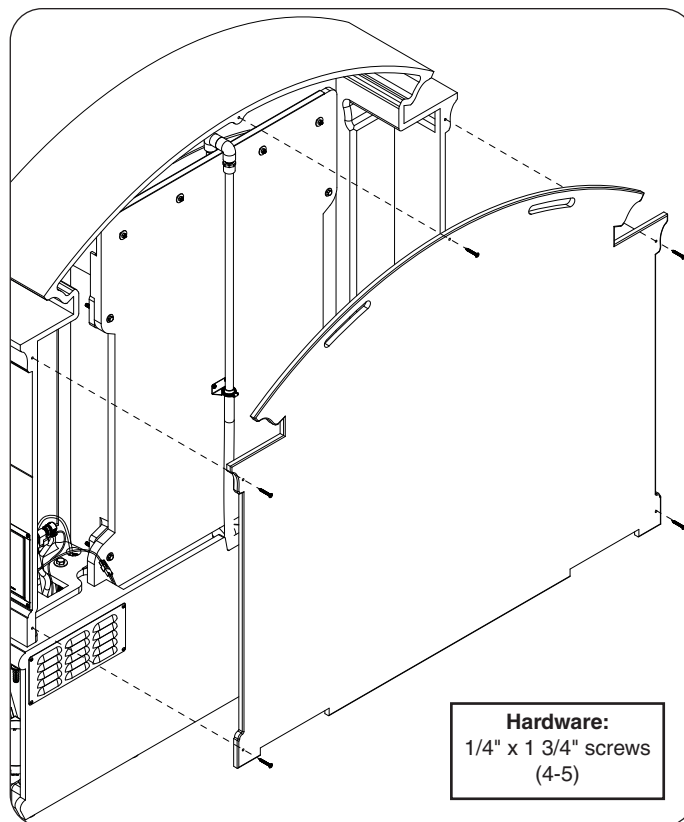

Fig. 32-2 Place outer rear-panel and fasten
4. Use a Phillips screwdriver and the supplied 1 3/4" concrete screws (4-5) to fasten the wall to the unit as shown in Fig. 32-2.